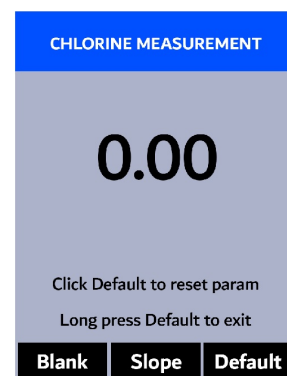

Figure 35.
8. Press **Cal** (**>**) to launch the **CHLORINE CALIBRATION** screen (Figure 35).